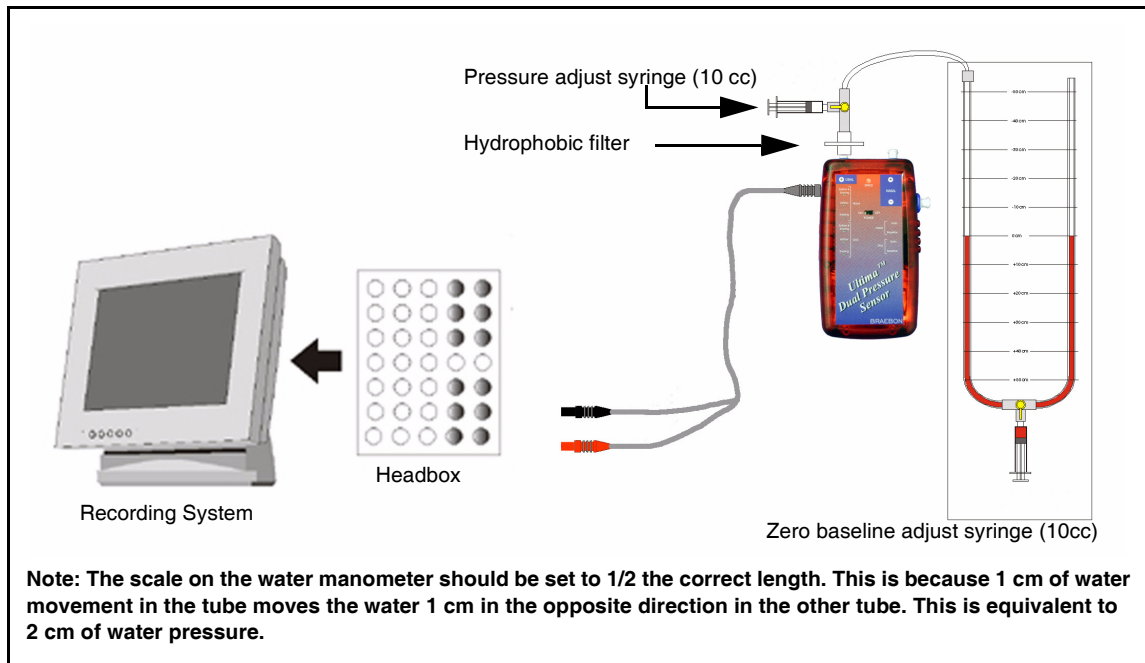

Figure 9 Calibration Schematic
1. Connect the pressure sensor to the water manometer and the headbox of your recording system as shown in Figure 9.